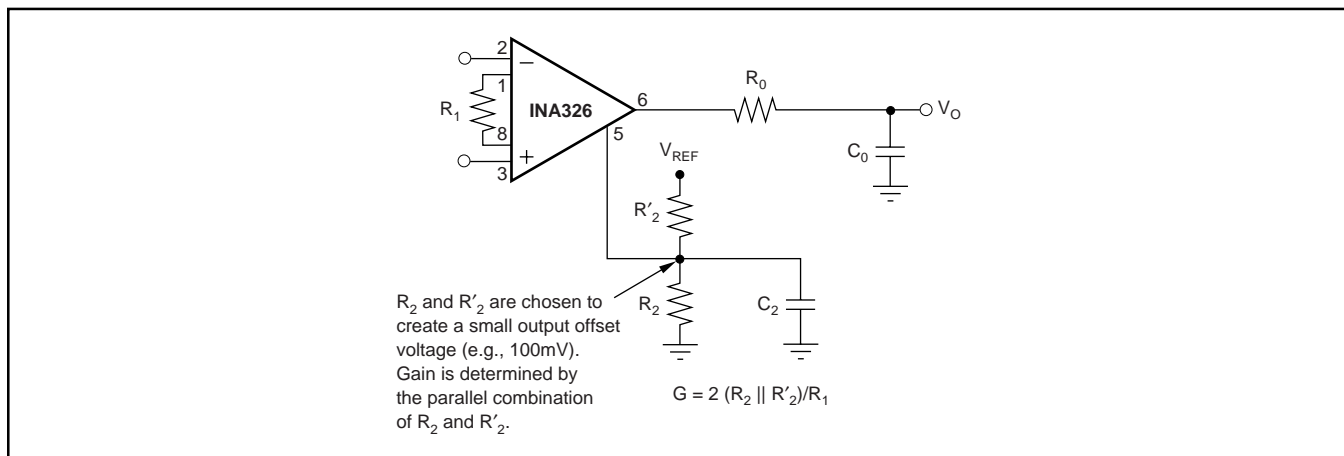

FIGURE 6. Generating Output Offset Voltage.
NOTES: (1) C_2 and C_O combine to form a 2-pole response that is -3dB at 1kHz. Each individual pole is at 1.5kHz. (2) Output voltage is referenced to I_{A_COMMON} (see text). (3) Output offset voltage required for measurement near zero (see Figure 6).